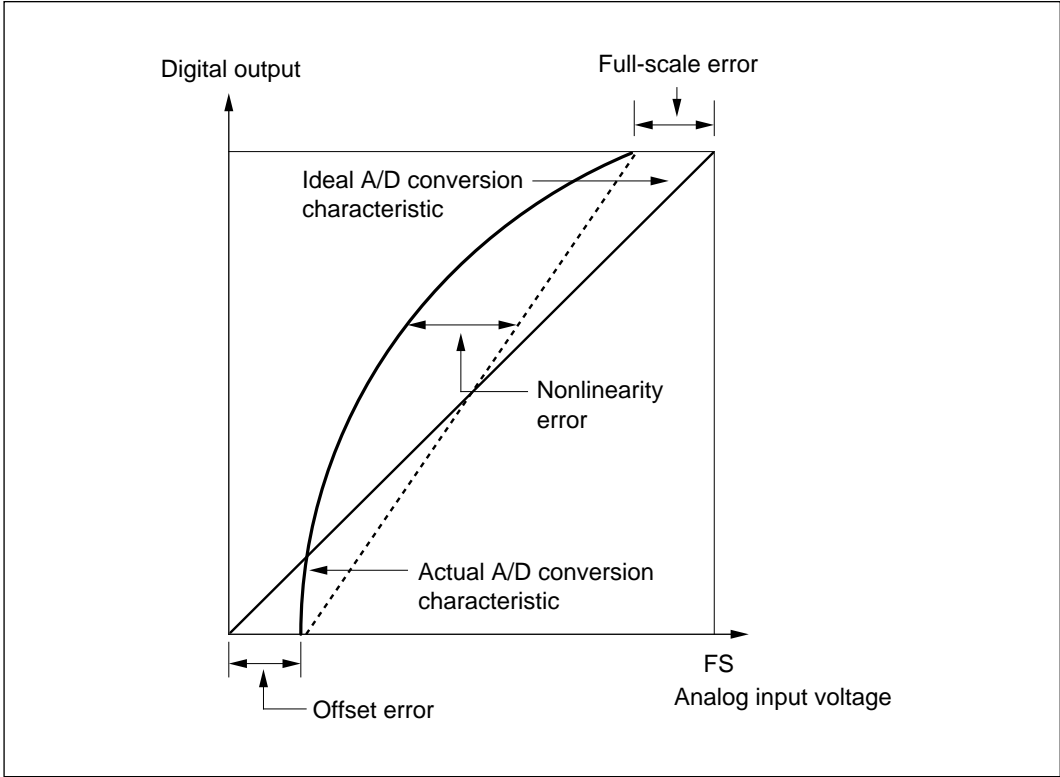

Figure 13-12 A/D Converter Accuracy Definitions (2)
(6) A/D Conversion Accuracy Definitions: A/D conversion accuracy in the H8/538F is defined as follows:
- Offset error: deviation from ideal A/D conversion characteristic of analog input voltage required to raise digital output from minimum voltage value 000000000 to 000000001 (figure 13-12); note that this does not include quantization error
- Full-scale error: deviation from ideal A/D conversion characteristic of analog input voltage required to raise digital output from 111111110 to 111111111 (figure 13-12); note that this does not include quantization error